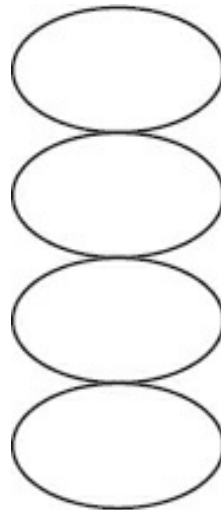

Figure R3-4.
2. The standard frequency is 5 kHz. Using Figure R3-4, what is the unknown frequency: